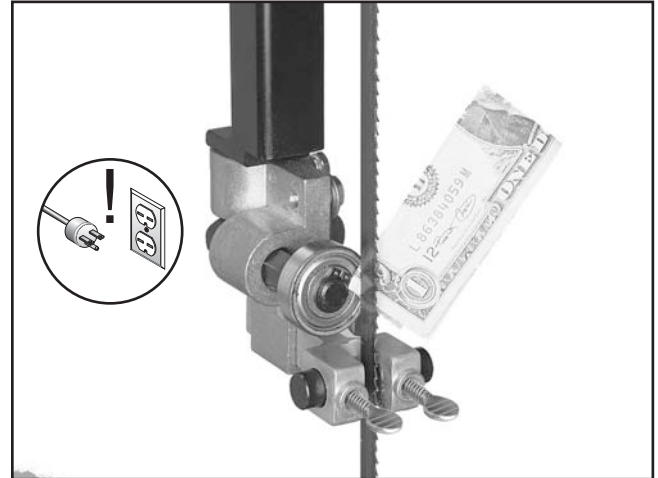

Figure 23. Dollar bill folded twice to make a quick 0.016" gauge.
- To quickly gauge this setting, fold a dollar bill in half twice (when folded tightly, four thicknesses of a dollar bill is approximately 0.016"). Place the folded dollar bill between the support bearing and the blade as shown in **Figure 23**.